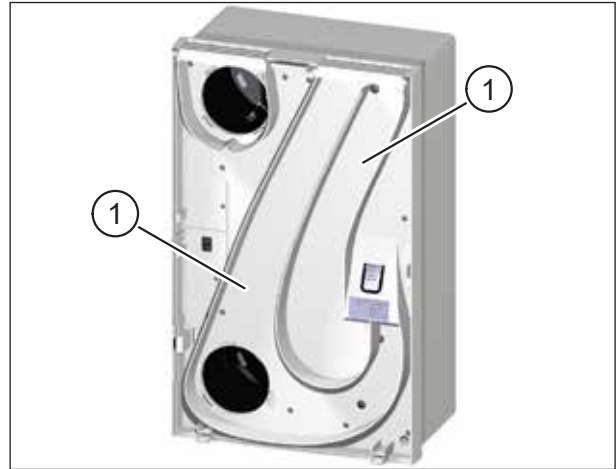

Fig. 14: Clean supply air ducts on intermediate plate
- ▶ Clean the supply air ducts (item 1 in Fig. 14) on the intermediate plate with a damp cloth and mild soapy water.